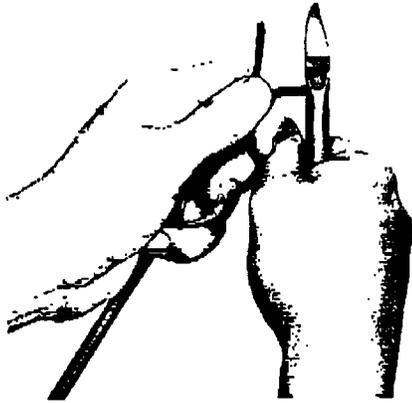

Fig. 7—Crushing Insulation
- (3) Crush the 3/8-inch length of insulation between the handles of the diagonal pliers (Fig. 7).